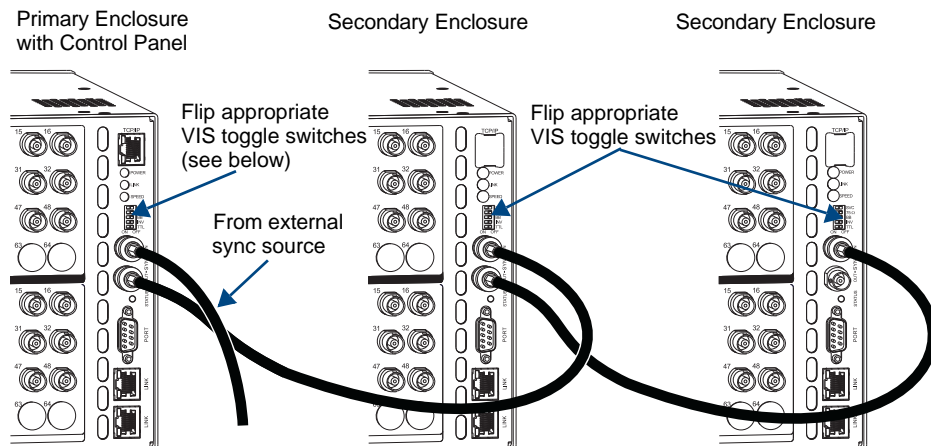

FIG. 24 Sync signal routed to multiple enclosures
1. Attach a cable from the external sync source to the primary enclosure’s Sync In connector (FIG. 24 on the next page) on the right rear. (The primary enclosure is the one with the control panel.)
2. Attach a cable to the Sync Out connector on the primary enclosure (FIG. 24).